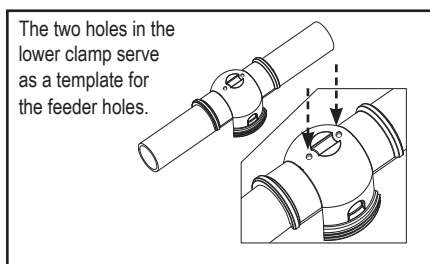

Figure 7. Marking Pipe for Drilling Feeder Holes
7. Invert the lower clamp and place on the pipe. Mark the pipe for drilling the feeder holes (see Figure 7).